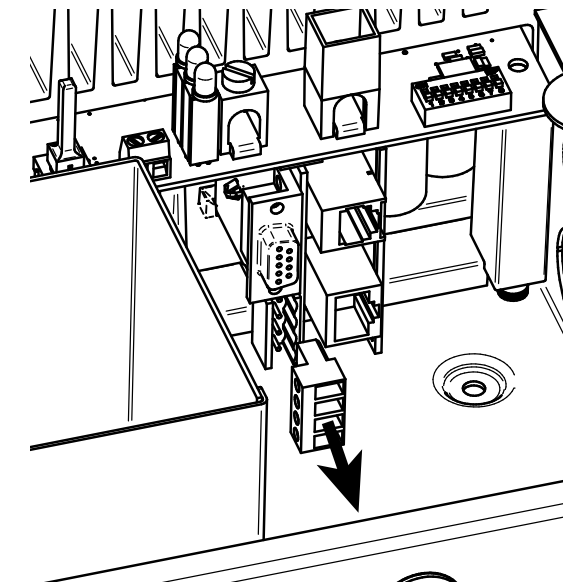

Figure 3-13. Removing the EIA-485 socket connector
The four (4) position EIA-485 connector on the TriStar MPPT 600V must be removed to access the terminal screws. Remove the socket connector by firmly grasping the connector body and pulling away from the circuit board as shown in figure 3-13.